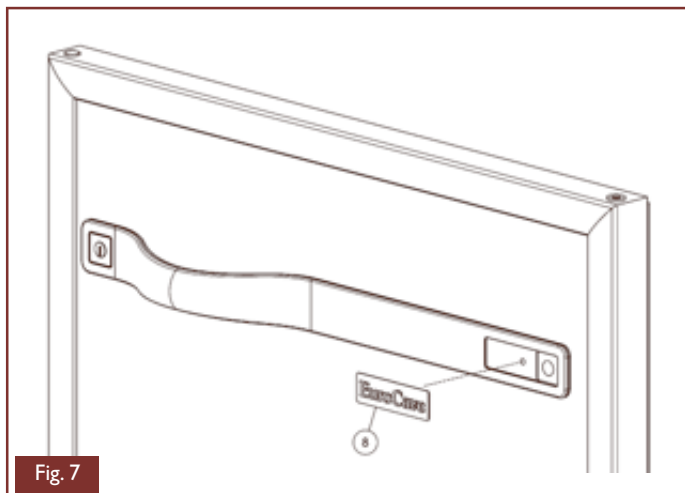

Fig. 7
- Stick on the self-adhesive "EuroCave" logo (8), see Fig.7